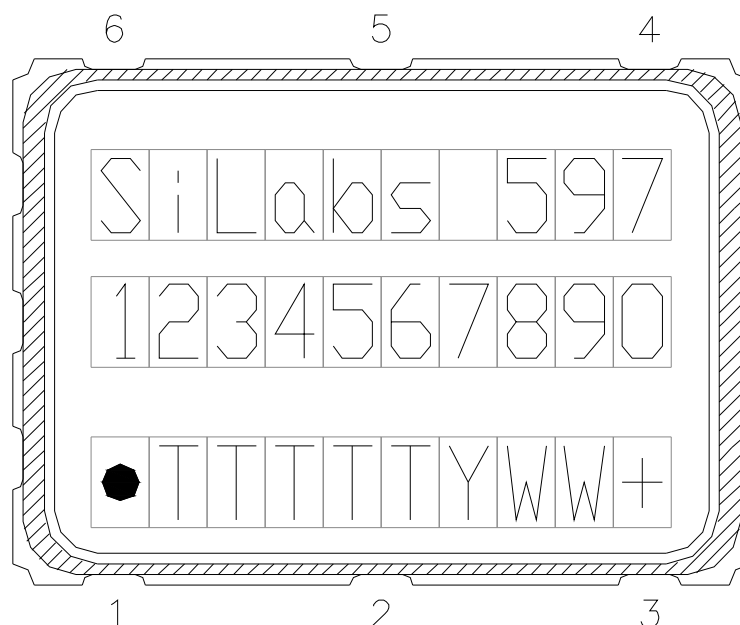

Figure 4. Mark Specification
Figure 4 illustrates the mark specification for the Si597. Table 14 lists the line information.
- Corrected marking information in Figure 4 on page 11.